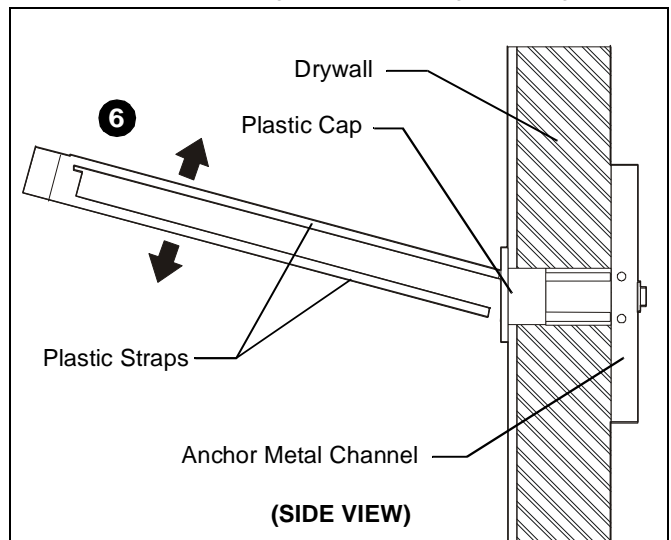

Figure 16
6. Snap off plastic straps on anchor at wall by pushing side to side, snapping off straps level with flange of plastic cap. (See Figure 16)